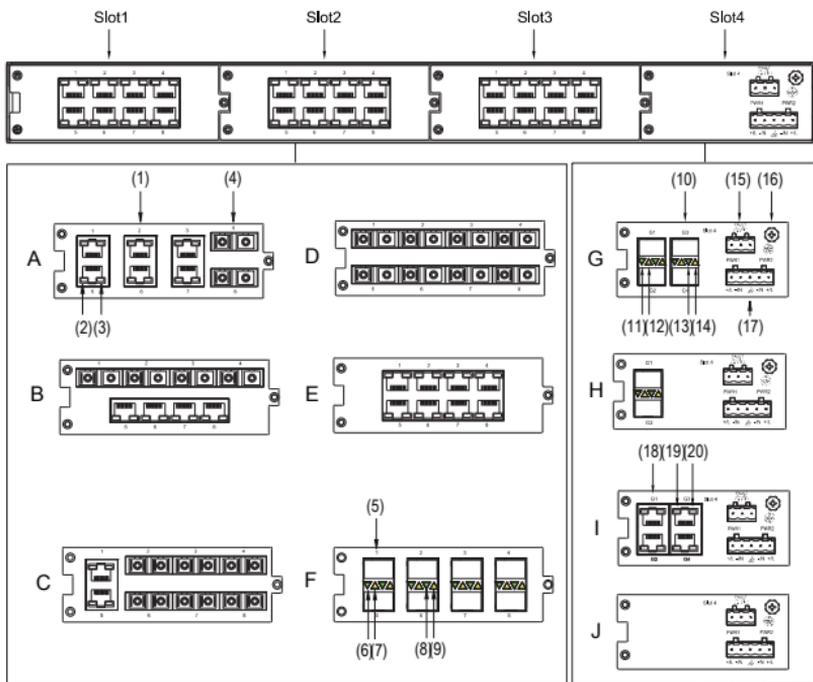

Figure 2 Rear Panel
- Figure 2 shows the rear panel of the device. The layout of Slot 1, Slot 2, and Slot 3 can be A, B, C, D, E, F, and the layout of Slot 4 can be G, H, I, J. The actual layout of these slots depends on the models (as listed in Table 1 and Table 2) you select.
- Panel I can provide four 10/100/1000Base-T(X) Ethernet ports or four 10/100Base-T(X) Ethernet ports. You can find the port type of your device in the software.